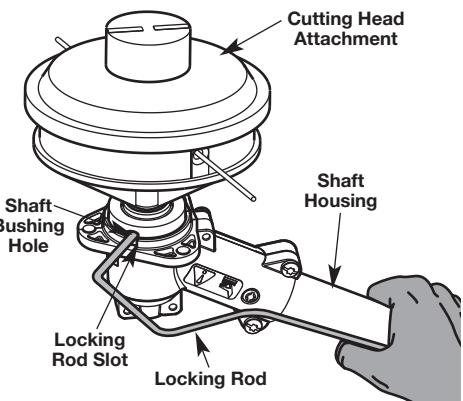

Fig. 7
- Position the cutting head attachment as shown (Fig. 7). Align the shaft bushing hole with the locking rod slot. Insert the locking rod into the shaft bushing hole.
- Hold the locking rod in place by grasping it next to the boom of the shaft housing (Fig. 7).